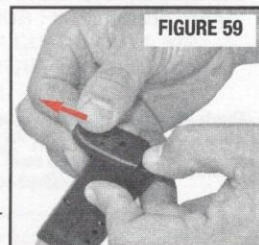

FIGURE 59
- Slide floorplate forward off of the tube while holding floorplate catch in the tube (FIGURE 59) against spring pressure.